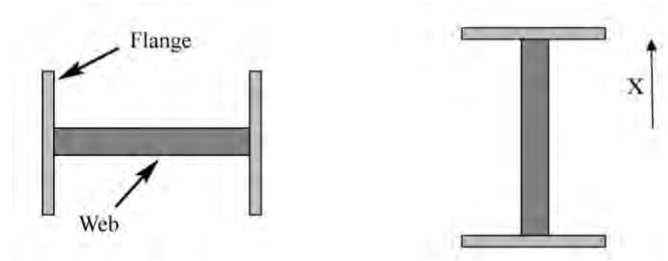

Figure 7: Weak and Strong Directions
2. The I Beam can also be bent in two directions, as shown in Figure 7. Measure the cross-sectional dimensions of your beam and use Eqn. (3) to calculate the Area Moment of Inertia for the beam bending in the weak direction. You can assume that the cross-section is composed of three rectangles.
where  $x$  is measured from the center of the I Beam, to the center of the flange as shown in Figure 7. Record your values for the Area Moment of Inertias in the table.